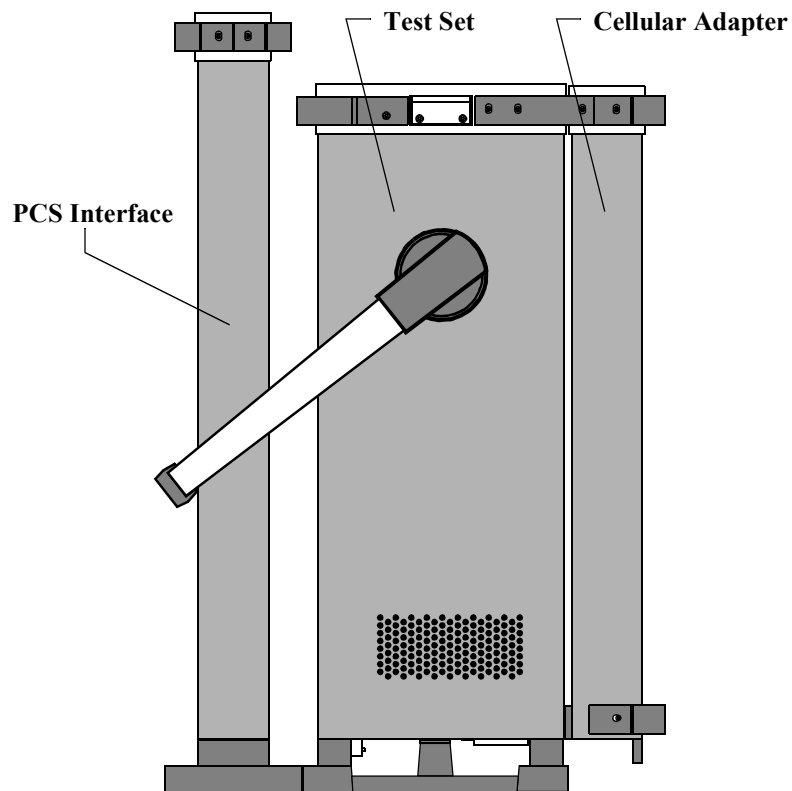

Figure 8
- b** If you are placing the Test System vertically (as is often done when putting the equipment on the floor), the PCS Interface's rear feet must be placed on the same surface as those of the Test Set. After placement, rotate the handle of the Test Set downwards to provide support for the PCS Interface. Refer to figure 8.